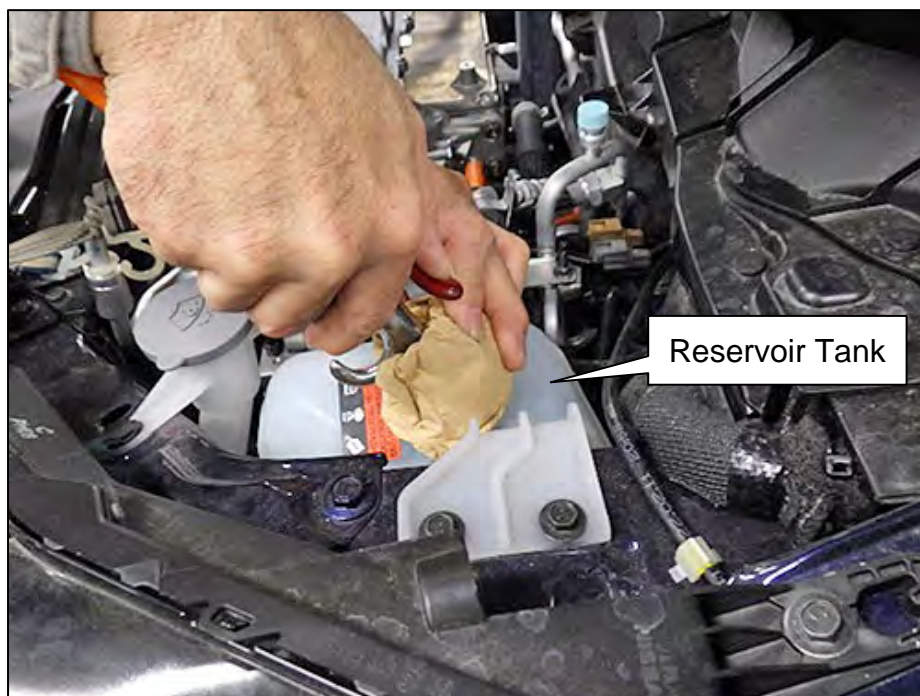

Figure 11
17. With the Reservoir Tank outlet still wrapped with the shop towel, blow air into the Reservoir Tank again as shown in Figure 11.
20. Blow air into the Reservoir Tank a third time as shown in Figure 11.